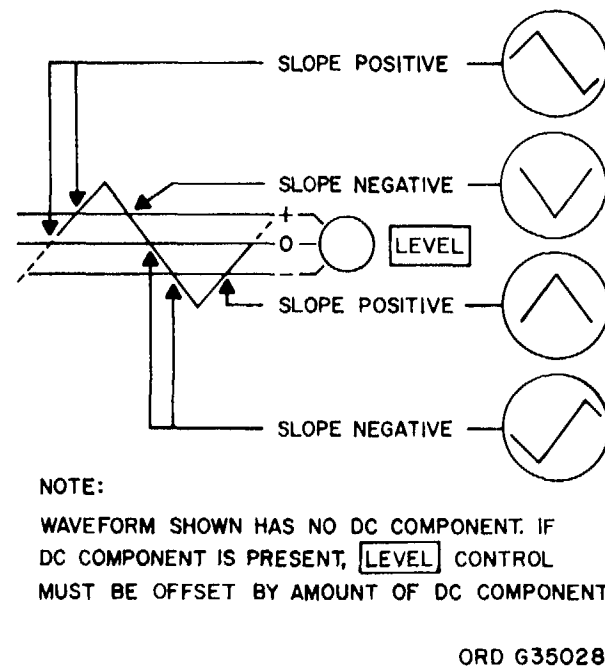

Figure 2-2. Use of triggering LEVEL and triggering SLOPE controls.
(b) Figure 2-2 illustrates how you can select the desired triggering point, using the SLOPE switch and the LEVEL control. The horizontal lines represent the dc level set by the LEVEL control. Notice how the setting of the SLOPE switch determines the point on the waveform where triggering occurs.
- (6) Rotate the NORMAL AND DELAYING TRIGGERING LEVEL control until the trace appears.
- (7) Set the TIME/DIV switch to display as many cycles of the waveform as desired.
- (8) Adjust the NORMAL AND DELAYING TRIGGERING LEVEL control and set the SLOPE switch + or - position for trigger source used) until the desired portion of the waveform is displayed (fig. 2-2).
- (9) By setting the sweep faster than the period of the waveform, it is possible to display just the first part of the waveform. Try various settings of the TIME/DIV, NORMAL AND DELAYING TRIGGERING LEVEL, and NORMAL AND DELAYING TRIGGERING SLOPE controls to obtain the best presentation.
- (10) If the trace is not stable with the HF STAB control in the NORM position, rotate the control until the trace stabilizes.